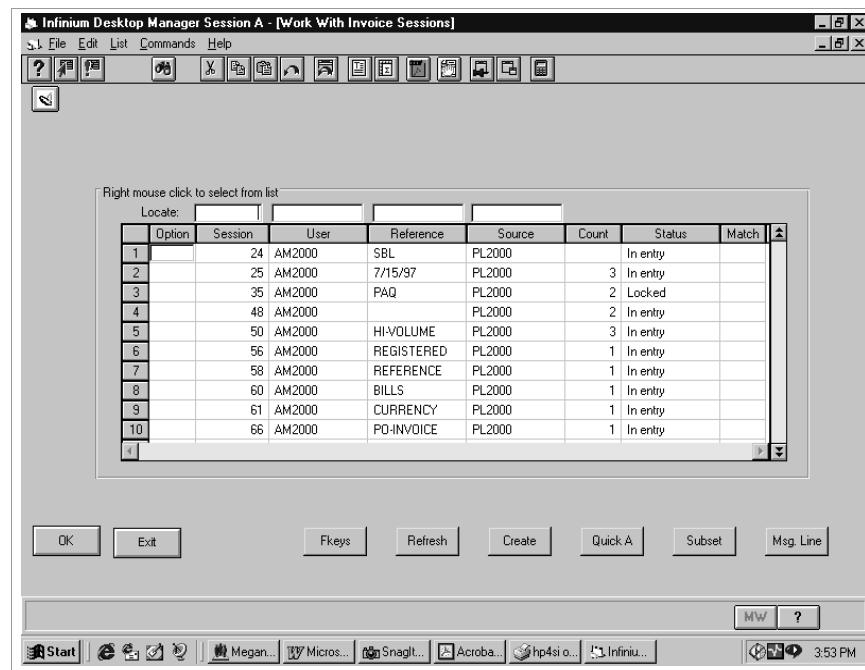

Figure 5-2: Work With Invoice Sessions screen
- 2 Select *Work with invoice entry [WWI]*. The system displays the screen shown in Figure 5-2.